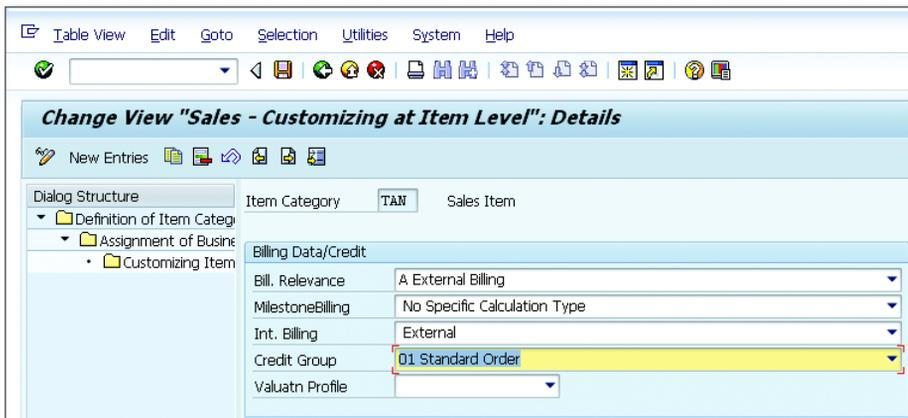

Figure 6.49 Credit Group Assignment to the Item Category
2. Navigate to SAP CRM under CUSTOMER RELATIONSHIP MANAGEMENT • BASIC FUNCTIONS • CREDIT MANAGEMENT • GENERAL SETTINGS • ASSIGN CREDIT GROUP TO ITEM CATEGORY. Here you'll assign the credit group to the item category, as shown in Figure 6.49.